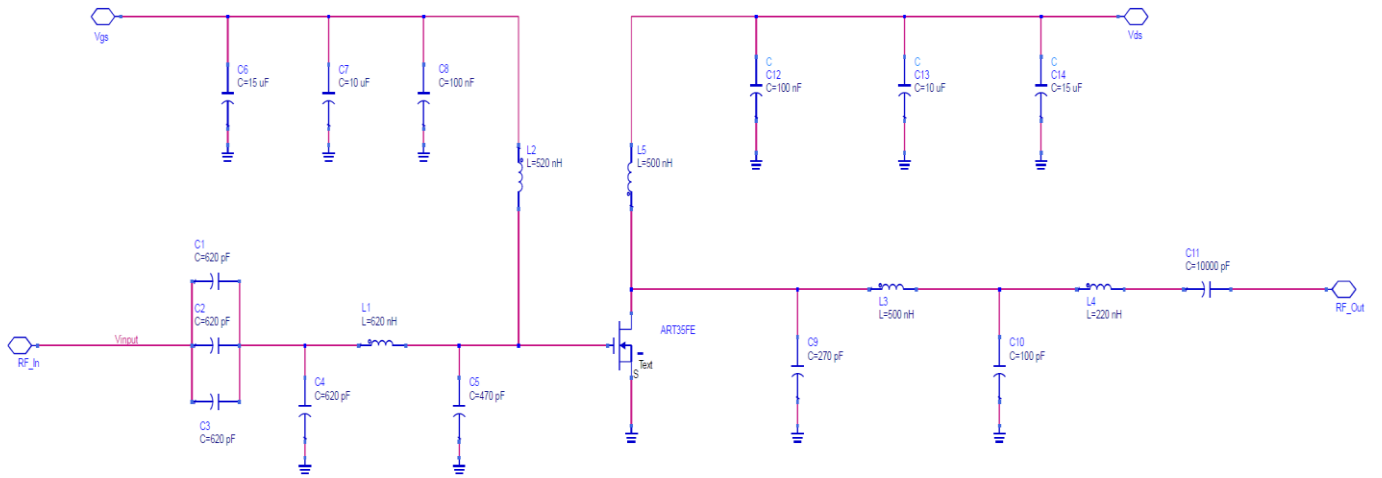

Figure 2 Schematic of the demo
- 3. List of figures 2
- Figure 2 Schematic of the demo 4